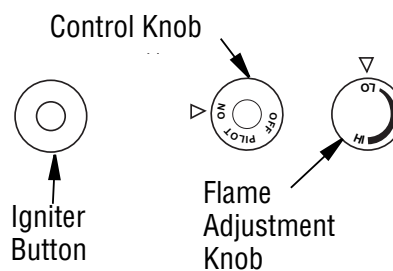

Figure 43 - Control Knob and Igniter Button Location
3. Press in and turn control knob clockwise to the OFF position (see **Figure 43**).
- Wait five (5) minutes to clear out any gas. Then smell for gas, including near the floor. If you smell gas, STOP! Follow B in the safety information, **Page 25**. If you don't smell gas, go to the next step.
- Press in and turn control knob counterclockwise ↺ to the PILOT position. Press in control knob for five (5) seconds (see **Figure 43, Page 25**).